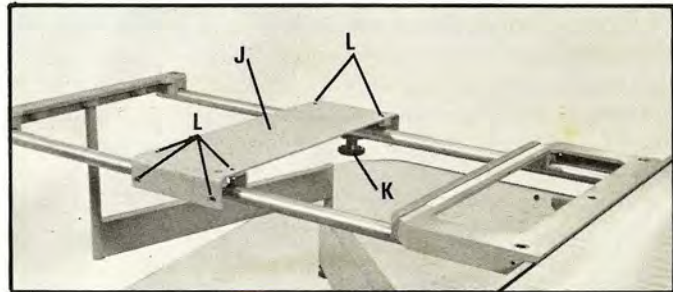

Fig. 19
4. Assemble support (J) Fig. 19, to the sliding table extension and tighten knob (K). Screws (L) Fig. 19, can be adjusted to correctly position support (J).